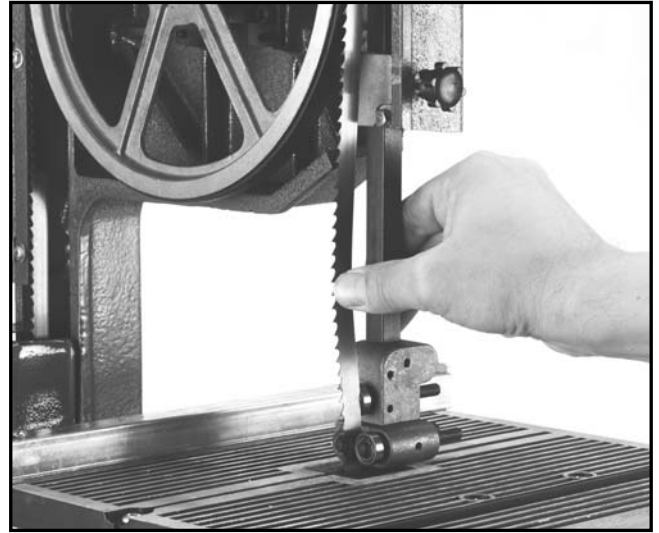

Figure 4. Checking blade deflection.
2. Press, with moderate pressure, on the face of the blade with your thumb. **Figure 4.**